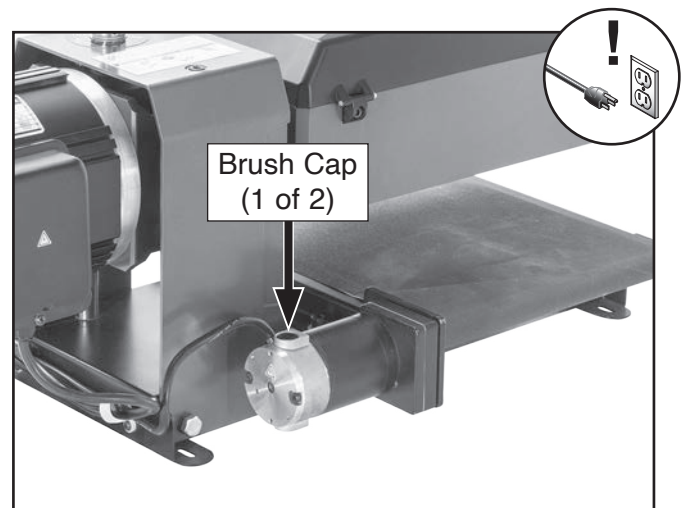

Figure 29. Location of brush caps.
2. Remove (2) brush caps and worn brushes (see **Figures 29–30**) from motor.